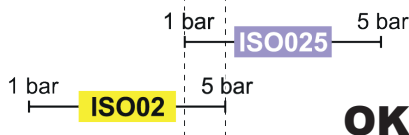

Fig. 140
• **Compatible nozzles:** the flowrate at 1 bar of the ISO025 nozzle is LOWER than the flowrate at 5 bars of the ISO02 nozzle (Fig. 140).